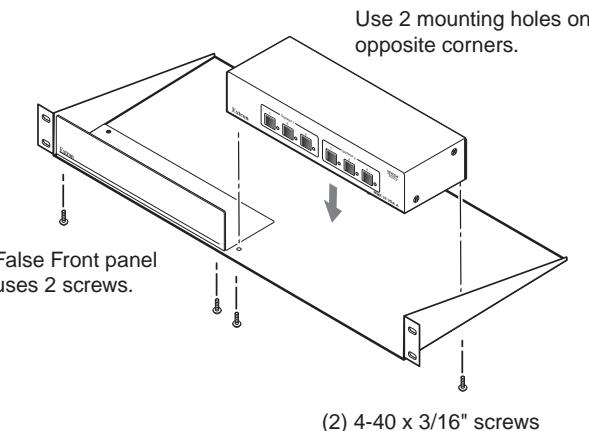

Figure 2-2 — Mounting the MMX 32 VGA A on a 1U Universal rack shelf
- Standard universal 1U rack shelf kit (part #60-190-01) (figure 2-2)